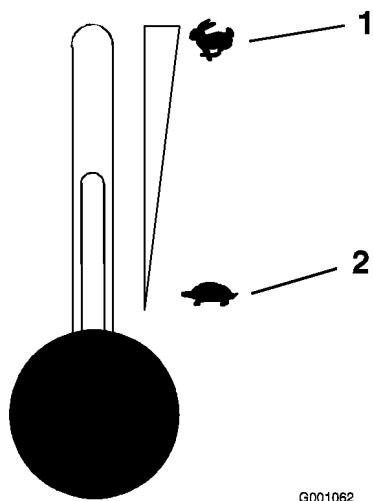

Figure 14
5. Move the throttle lever to the middle position (Figure 14).
2. Move the throttle lever midway between the slow and fast positions (Figure 14).